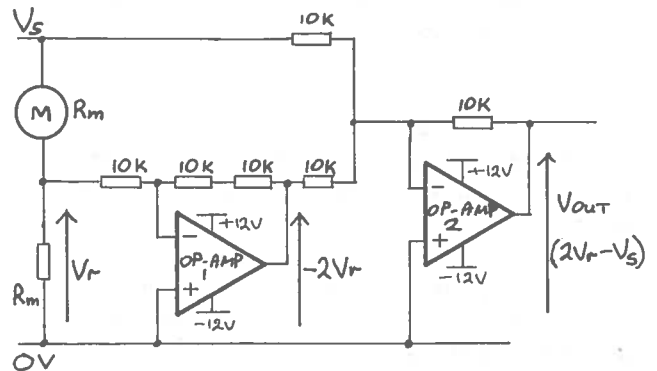

Fig.2 - Op-amp tachometer circuit
This function is obtained electrically by a circuit comprising two op-amps (Fig.2). Op-amp 1 is wired as an inverting amplifier with a gain of 2. The signal on its output is $-2V_r$. Op-amp 2 is wired as a summing amplifier with unity weighting and gain. It adds $-2V_r$ to V_s and inverts the sum to produce the desired function (2).